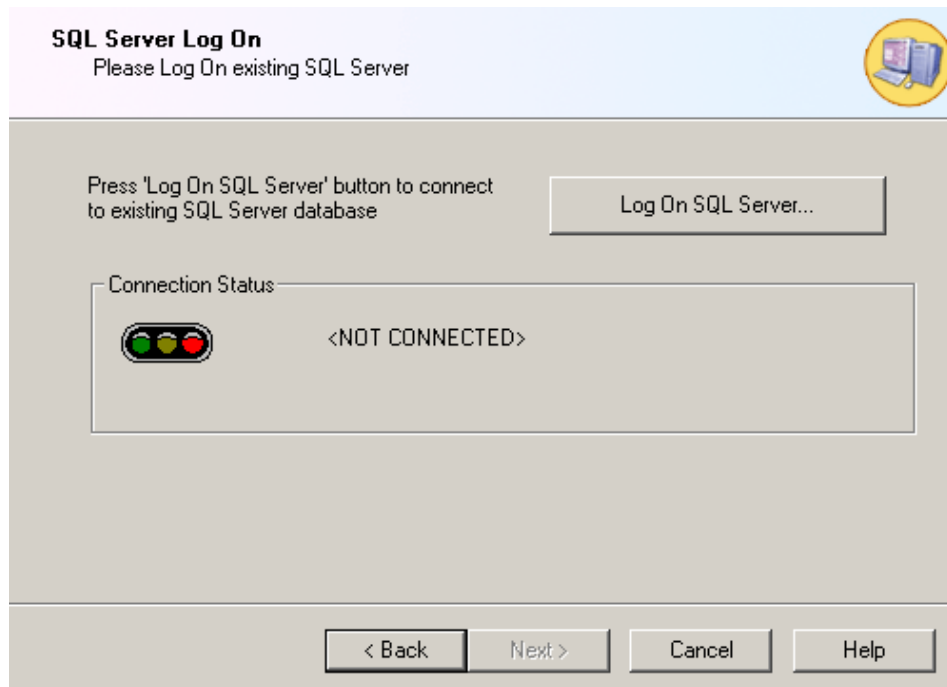

Figure 1.21. Connecting to an Existing SQL Server Database
2. You are now prompted to connect to the existing SQL Server database. Click the **Log On SQL Server** button, as shown in Figure 1.21.